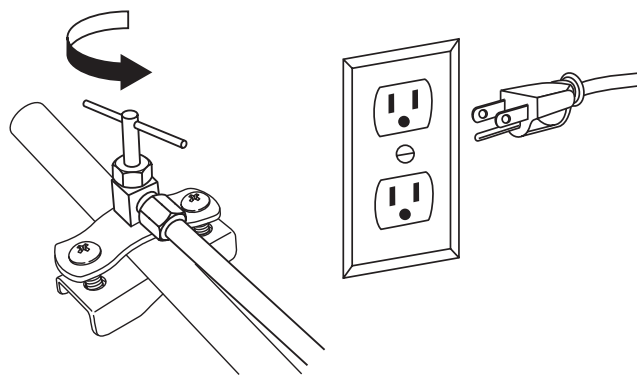

Figure 23
- Figures 23, 24
4. Insert the electrical plug for the combined winecooler/freezer into the electrical outlet (**Figure 23**).